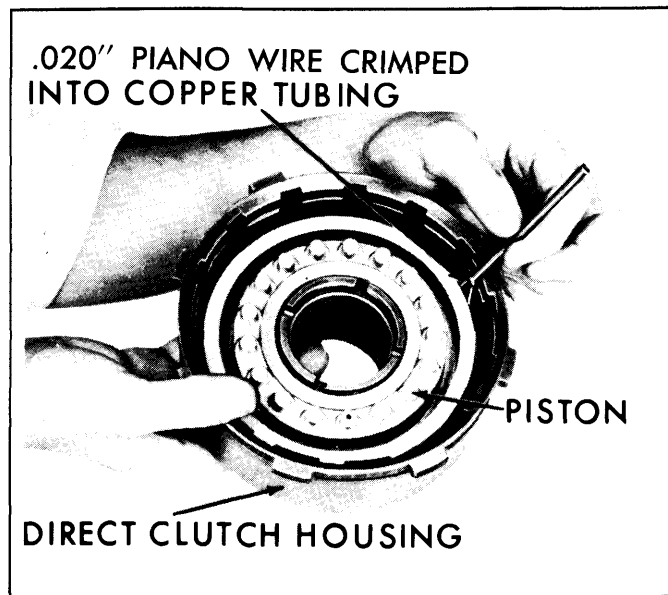
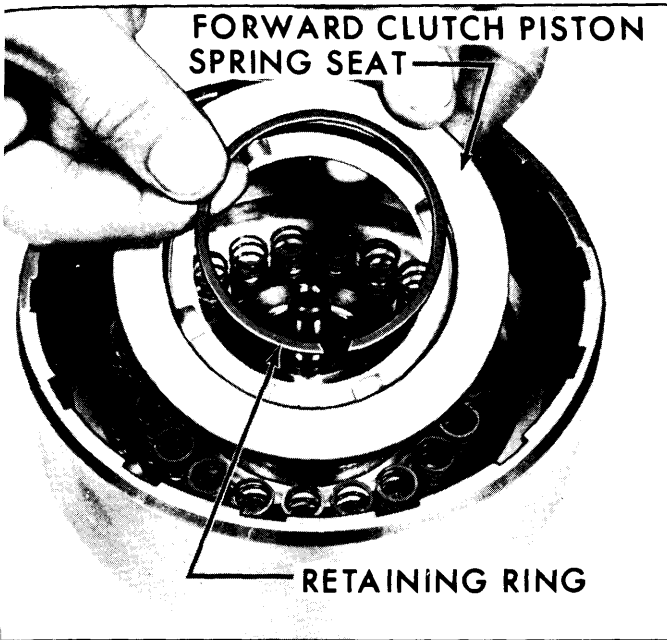
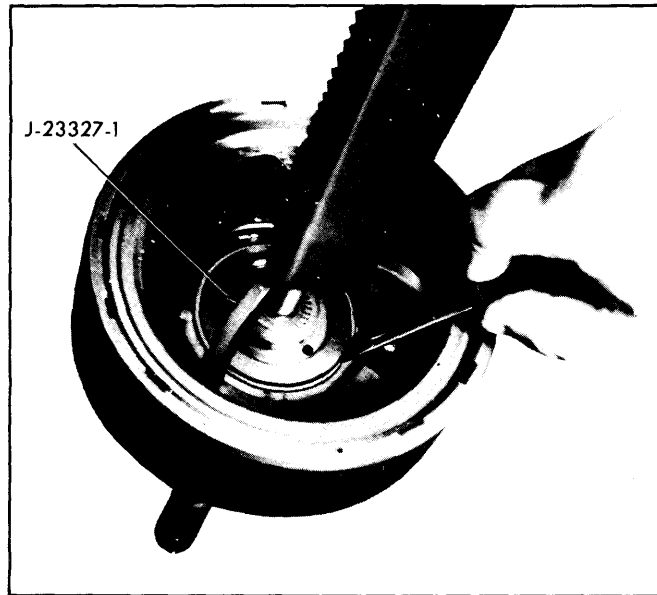

Fig. 7-75—Installing Direct Clutch Piston
Fig. 7-76—Installing Direct Clutch Springs, Spring Seal and Retaining Ring
Fig. 7-77—Compressing Direct Clutch Piston Return Seat seal.
3. Install direct clutch piston into housing with aid of a feeler gauge or a piece of .020" piano wire crimped into copper tubing. (Fig. 7-75)
4. Install (17) clutch return coil springs.
5. Install piston return spring seat. (Fig. 7-76) Compress spring seat with Tool J-23327 and install retaining ring. (Fig. 7-77)